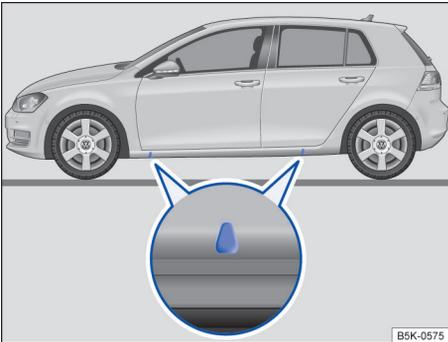

Fig. 187 Lift points for the jack.
The jack must be positioned at one of the 4 lift points located behind the markings on the vehicle body (2 on each side as shown in → fig. 187). You must use the lift point closest to the wheel being changed → ⚠.
3. *Automatic or DSG transmission:* Shift the transmission to Park (P) → page 149, *Automatic or DSG® transmission selector lever.*
9. Find the jack lift point → fig. 187 on the vehicle frame that is closest to the wheel to be changed.